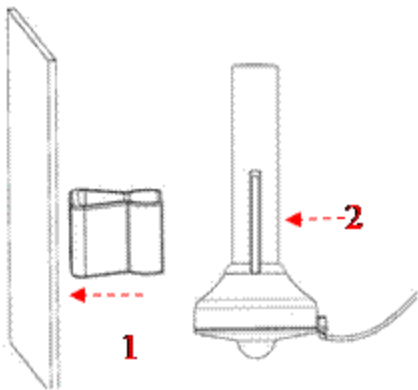

Figure 3-1
3.2.1 The lifebuoy light comes with a clip and rope. Separate the clip from the light for installation as Figure 3-1.